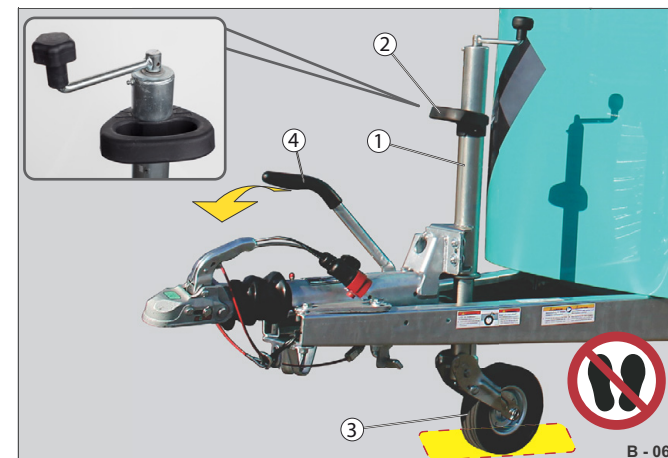

Fig. 73 Manoeuvring with a braked trailer
- Wind the jockey wheel (Fig. 73 /3) down so that the jockey wheel can move under the drawbar.
- Release the hand brake lever (Fig. 73 /4).
- If applicable, hold the manoeuvring handle (Fig. 73 /2) or the round rod of the automatic jockey wheel.